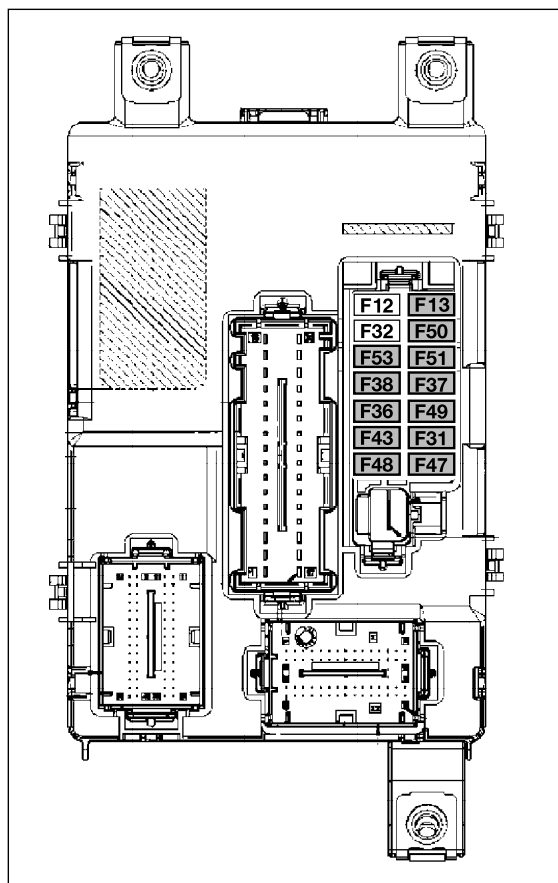
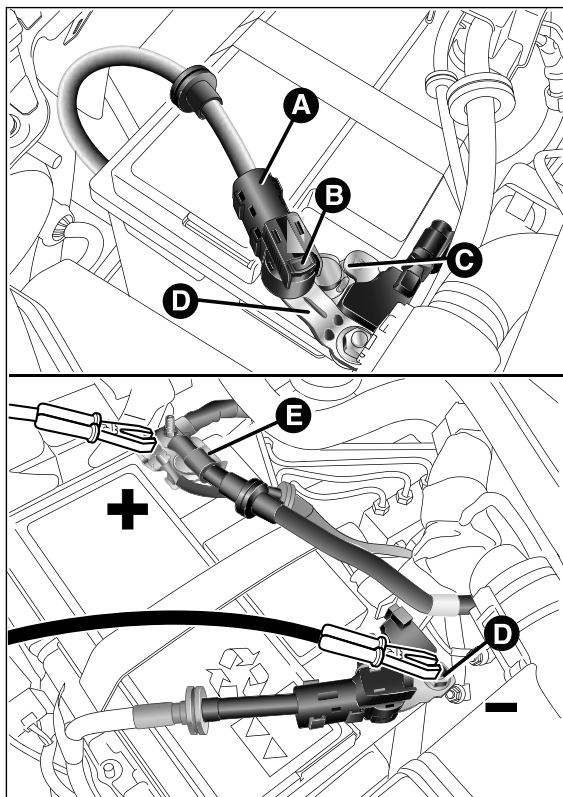

fig. 142
fig. 143
- undo the screw A fig. 142, remove the cover B fig. 142 pulling upwards. The number identifying the electrical component corresponding to each fuse is on the cover fig. 143. After replacing the fuse, make sure you close cover B on the fusebox.